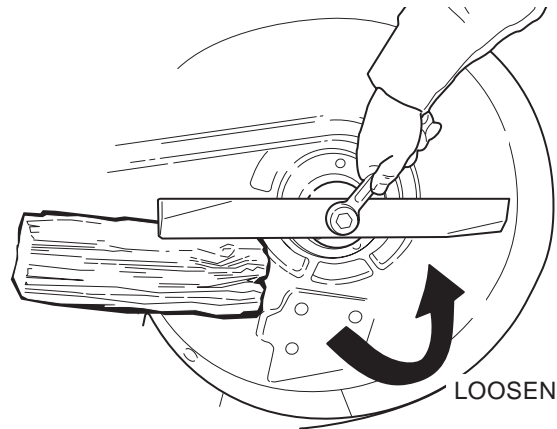

Figure 20. Blade Removal
2. See Figure 20. Remove blade to inspect it or to safely access the underside of the mower deck. Use a block of wood to prevent blade rotation while loosening the capscrew by turning it counterclockwise.